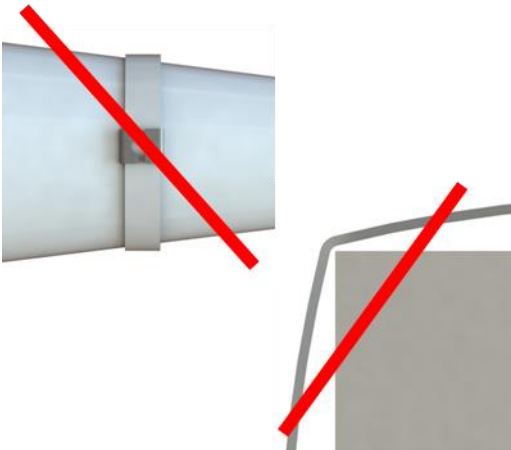

Figure 31
- Avoid sharp corners, add largest radius possible on square corners (Fig. 31)
- Do not install clamps on tapered surfaces or on tube bends (Fig.31)